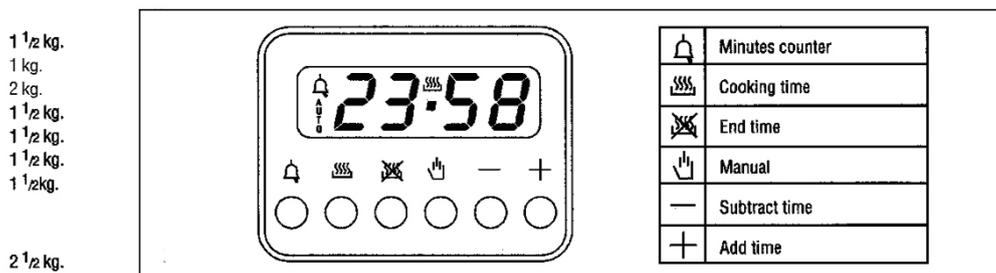

Fig.10
**<<LED>>PROGRAMMER (fig.10)**